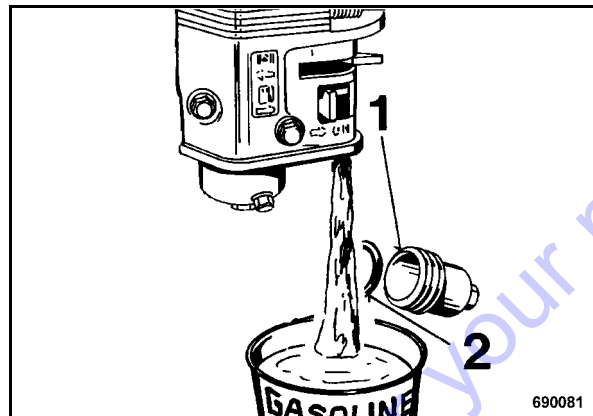

Fig. 64
- Unscrew the sediment filter (1) (Fig. 64), drain off and catch all fuel.
- Check the seal (2) for damage, change if necessary.